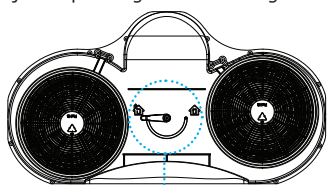

Fig. 1
1. Remove the aluminium grease filters (Fig 6. on page 10) from the underside of the rangehood. Turn the switch in the centre of the motor housing to "External Outside Ducting" position (Fig. 1)